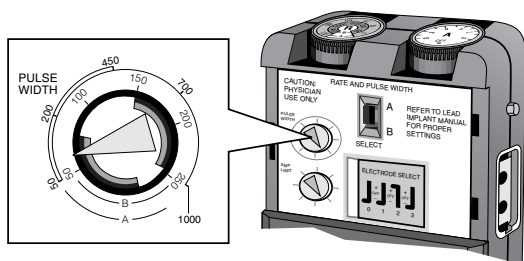

Figure 9. Set Pulse Width to 60 μ sec.
- d. Set the PULSE WIDTH control to 60 μ sec or as desired (typical therapeutic range 60-120 μ sec). (Figure 9).